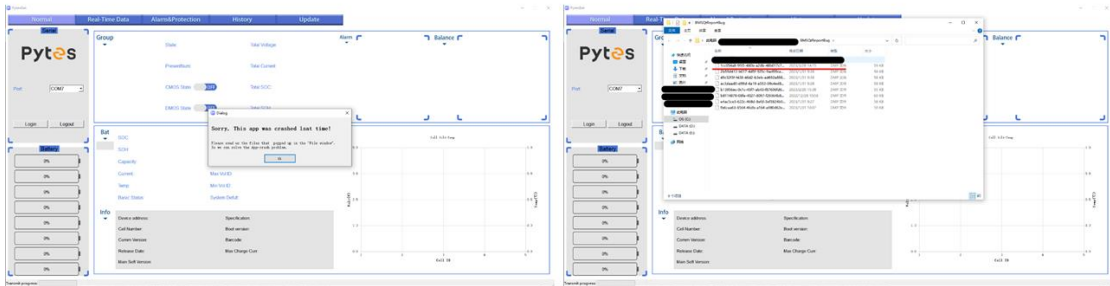

Figure 12
- c) If the program crashes and upon restart, the program prompts the user the program has crashed, as shown in Figure 12. Please send the crash info to our after-sale team and help us to improve our program. You can find the log in location shown as Figure 12.